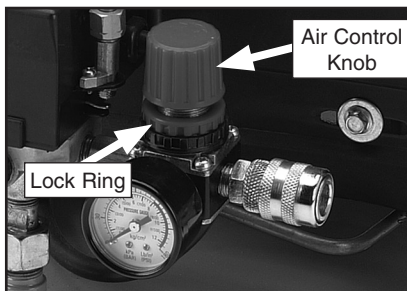

Figure 8. Tool air control knob.
- Adjust the air control knob, shown in **Figure 8**, to set the PSI that will be delivered to your tool. Turn the knob clockwise to increase the pressure or counterclockwise to decrease the pressure.
- Rotate the lock ring shown in **Figure 8** against the bottom of the air control knob to prevent changes in the air pressure.